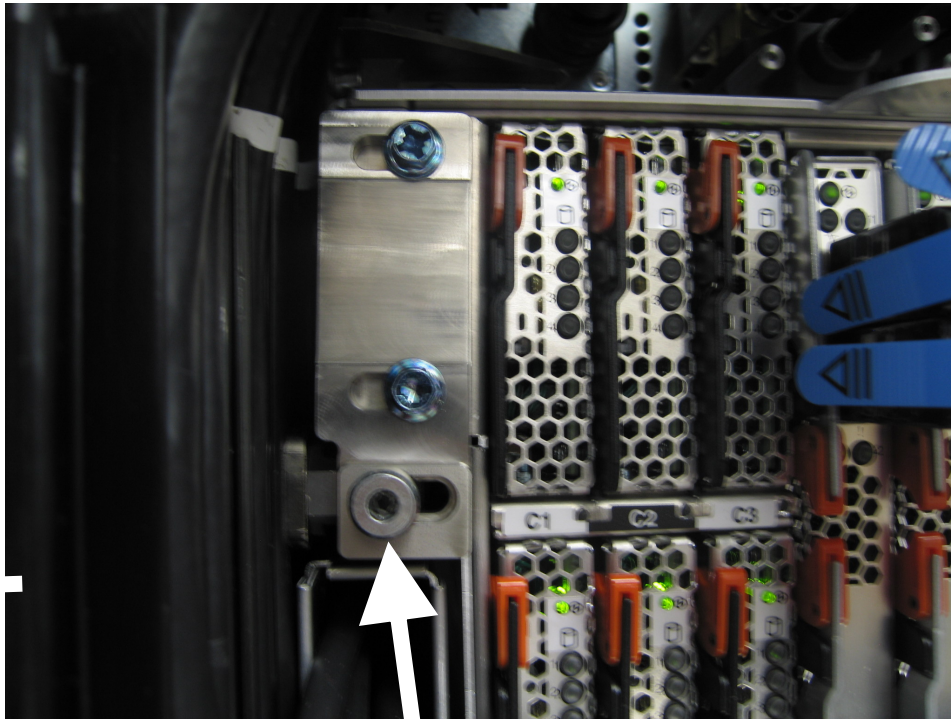

Figure 20 Photo of Front Rail Block Captive Screw
STEP 22 Locate the two Front Rail Block Captive Allen head screws (one on the left side and one on the right side of the DE) which hold the Front Rail Block to the DE Rails (see Figure 20).